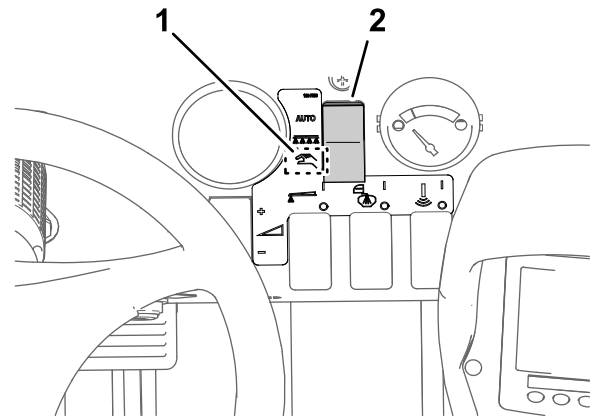

Figure 31
2. Set the sprayer mode button to the Manual Mode (Figure 31).